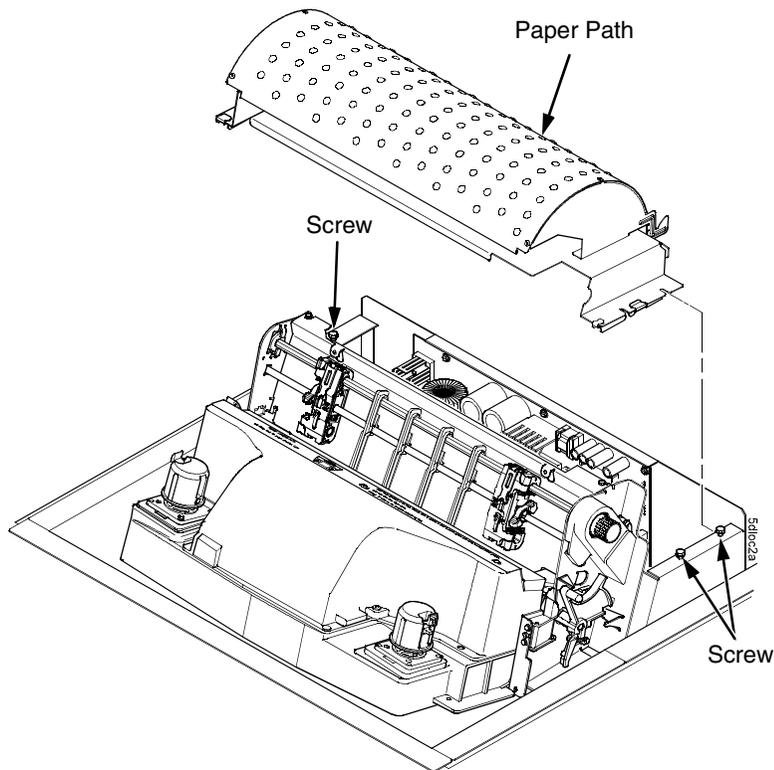

Figure 35. The Paper Path
2. Loosen the three screws that secure the paper path to the card cage. (Figure 35.)
1. Position the paper path offset slightly to the left on the card cage with the keyway cutouts over the three loosened screws. (Figure 35.)
3. Make sure the paper path shims are aligned with edges of the paper path flanges and the two legs on each shim are sitting on the flanges of the card cage. (See page 248, items 13 and 14.)
4. Tighten the screws securing the paper path to the card cage. (Figure 35.)